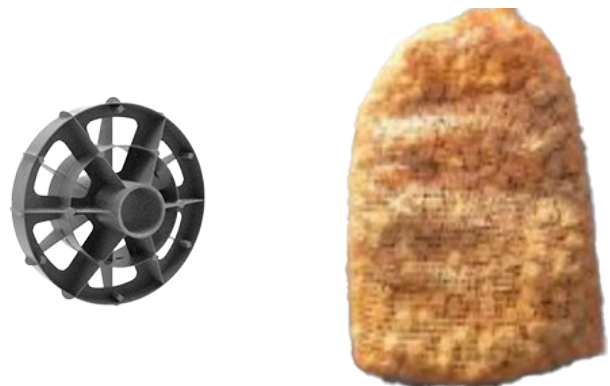
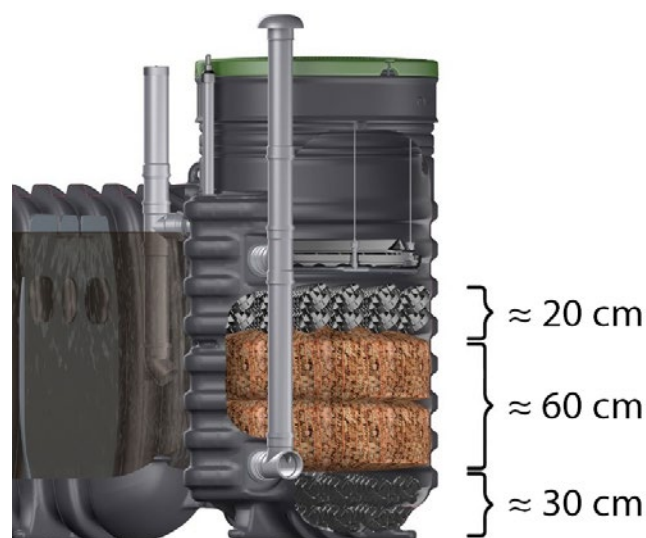

Fig. 6: Treatment media – Pall rings (upper and lower layer, GRAFROCK media bag (middle layer))
Fig. 7: Media layers of the biofiltration system – Pall rings top and bottom layer, GRAFROCK media middle layer
The biofiltration system is made up of 3 layers (see Fig. 6 and Fig. 7). Impairments are usually visible in the top layer, so in most cases only this layer needs to be checked.
The biofiltration treatment media are located under the distribution system in the treatment unit. The biofiltration system is made up of 3 layers (see Fig. 7).
- ① The GRAFROCK media can be treated as mineral substrate waste.
6. Arrange the treatment media in layers as shown in Fig. 7. Refer to the quantities and thicknesses in Tab. 7.
- ① Only use new and genuine GRAFROCK media bags.
- ① Arrange each media layer so that the entire cross-section of the treatment unit is filled without gaps and an even layer surface is created.